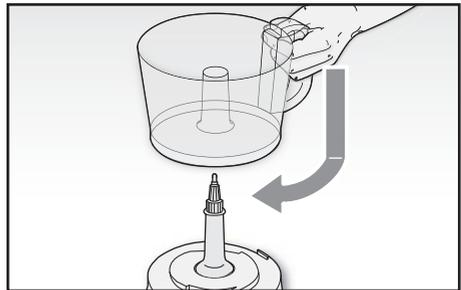

Fig. 3
- 2 Put the bowl (P) on the motor body (Fig. 3). Align the notch on the bowl with the symbol (☐). Rotate the bowl clockwise. Align the notch on the bowl with the symbol (🔒).